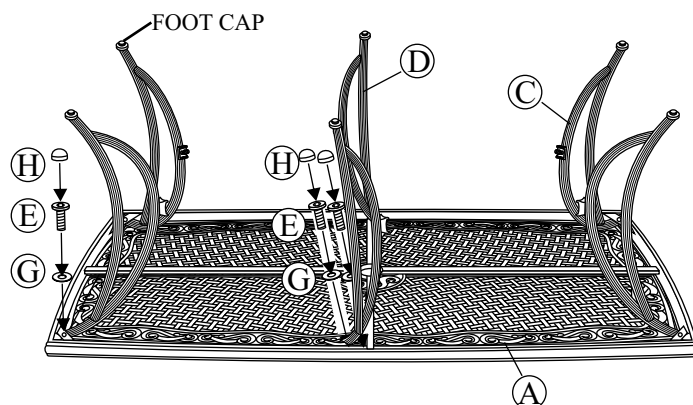

Fig.1
Place the table top upside down on a flat, non-abrasive surface. Attach a side leg to the table top by using a 1/4"x20 mm bolt and a washer as shown in the **Fig.1**. Place the leg beneath the table rim corner bracket. Guide the bolt through the hole in the table rim corner bracket and into the pre-drilled hole in the side leg. Hand tighten only. **Do not tighten completely.** Some adjustments may be necessary to ensure proper alignment of the table legs. Repeat for the other three side legs. Attach the middle leg using the 1/4"x20 mm bolts and washers as shown in the **Fig.1**. Hand tighten only. **Do not tighten completely.** Repeat for the other middle leg.
**1** **Important: We recommend 2 people work together to assemble the chair.** Note the arrow labels on the "U" bar and the rocker assembly. Also note the horseshoe shape of the rocker plate. Point the open end of the horseshoe away from you. The arrows on the rocker assembly should be pointing towards you. Set the chair frame on the rocker assembly with front of the seat facing you and the arrows on the "U" bar pointing towards you as shown in **Figure 1**. This is very important for a safe, balanced rocking motion. **If chair frame has been properly positioned on the rocker assembly, all arrows on the "U" bar and rocker assembly will be pointing in the same direction.**